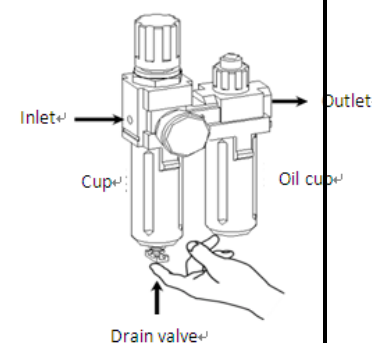

Fig14-1
- As shown in Figure 14-1, when you found there are some water in the cup, push up the drain valve to drain away water with your fingers; loosen your fingers after drained water, drain valve can be automatic closed under the action of the spring.